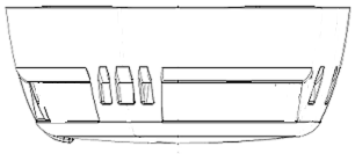

Figure 3
4. Continue to rotate a few degrees until the ONEDETECTORX_AP has fully engaged in the ONEBASE. (fig3)